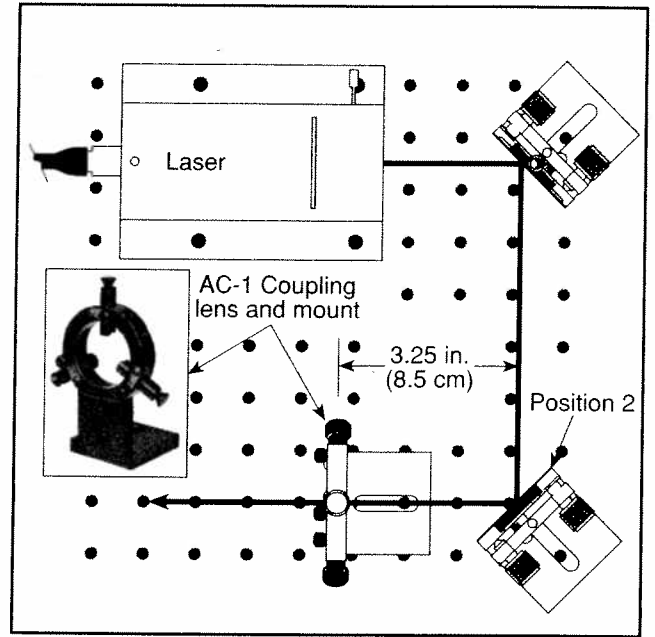

Fig. 7. – Install coupling lens and mount.
7. Coupling lens and mount: install the lens and lens mount assembly in the indicated area, as shown in Fig. 7. Note that the input beam is located near the center of the coupling lens. Adjust the second mirror mount (MM2) if it is not. The coupling lens is of focal length = 38mm and diameter = either 0.5 or 1.0 in. The lens should be positioned approximately 3.25 inches from the second MM2 mirror.